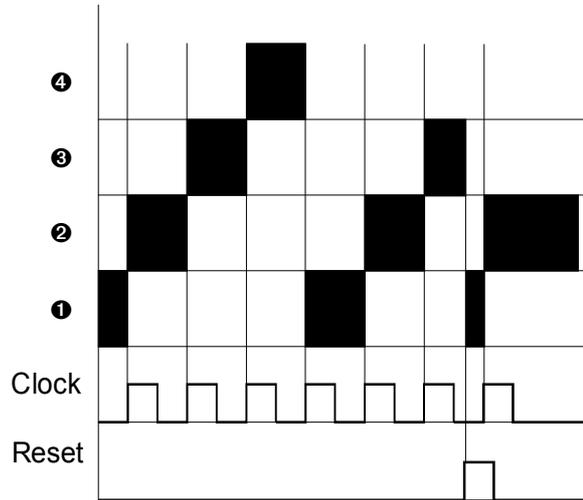

Fig. 1: How the A-151 switching works (■ : in / output connected)
After stepping to the fourth in / output the next trigger pulse sends the common out / input back to the first in / output again (see Fig. 1).
② Res. In
If you want to over-ride the stepping sequence, and send the common out /input back to the first in / output, send a reset pulse to the **reset input ②** (see Fig. 1). The rising edge of this pulse immediately resets the common out / input to the first in / output.
③ O/I
Socket ④ is the **common out /input**. Each time the A-100 is switched on, or a reset pulse is received, this socket is connected to the first in / output socket ④ (see Fig. 1).
④ I/O 1 • ⑤ I/O 2 • ⑥ I/O 3 • ⑦ I/O 4